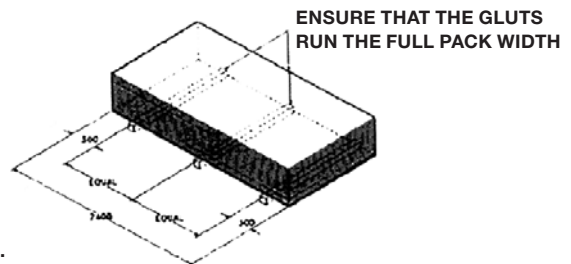

Fig 1.
- Bearers or gluts must be of uniform thickness and must extend across the full width of the stack. See Fig 1.